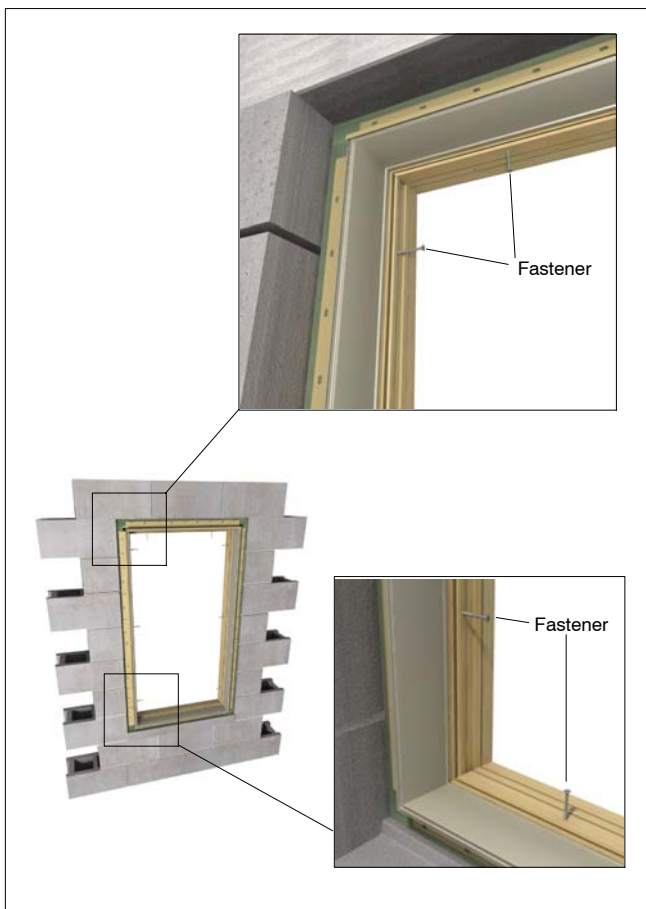

Figure 9: Exterior view, fastening through Casemaster frames.
2. On **Casemaster** units, position the screw so that it misses any operating hardware (if applicable). With typical installations, you should be able to locate the screw in the center groove in the frame and just to the exterior of the kerf that holds the head jamb stop. See figure 9.